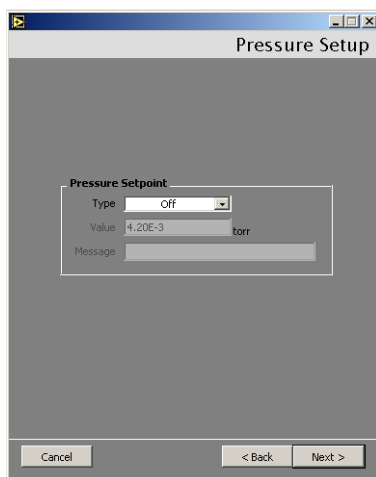

Figure 2-42 Pressure Setup
11. Click **Next** and Figure 2-42 appears.